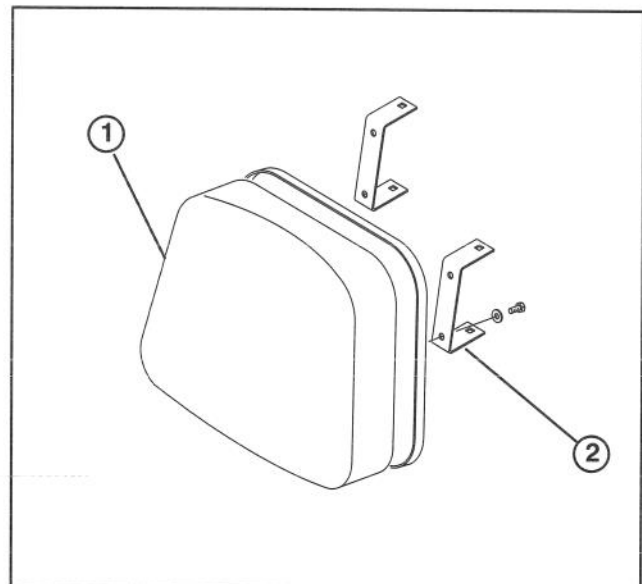

Figure 7
INSTALL SEAT BACK CUSHIONS, MANUAL TUBE AND BED SUPPORT (Fig. 7 – 9)
1. Mount (2) seat back brackets to each seat back cushion with (4) 1/4–20 x 3/4" lg. capscrews and 1/4" flat washers. Position brackets on seat back cushions as shown in figure 7.